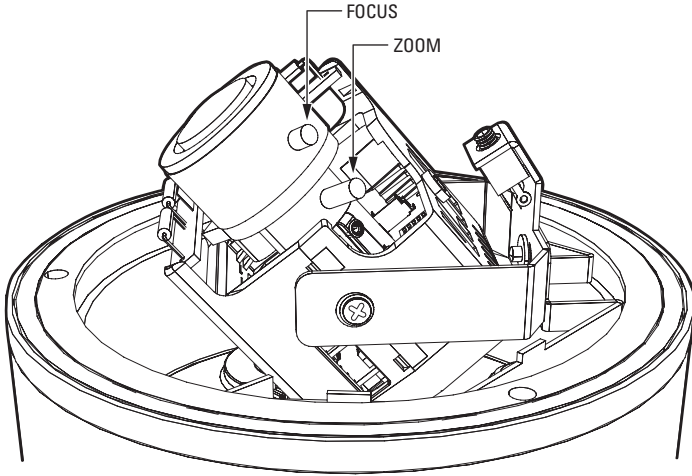

Figure 18. Location of Zoom and Focus Adjustments
1. Select a field of view by turning the zoom adjustment ring clockwise/counterclockwise (refer to Figure 18).